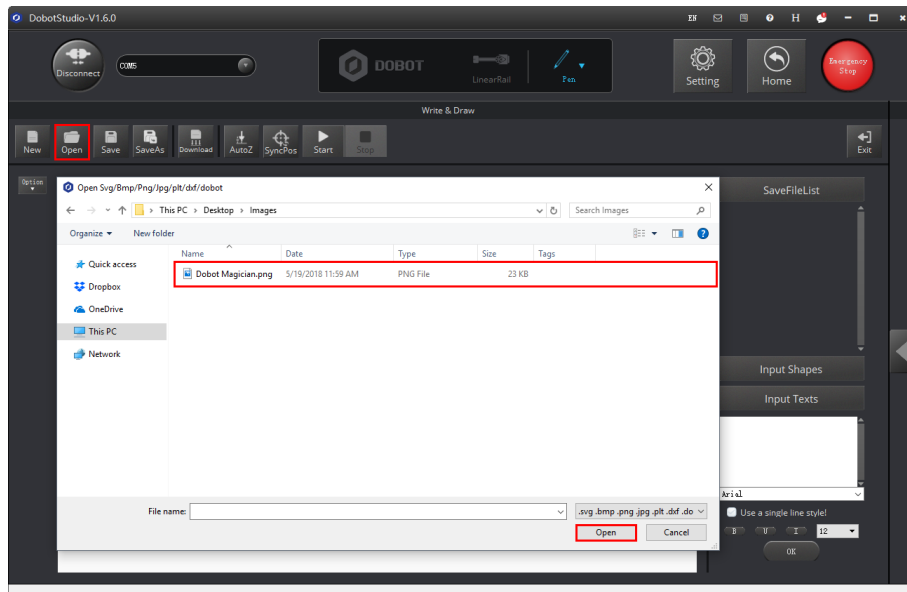
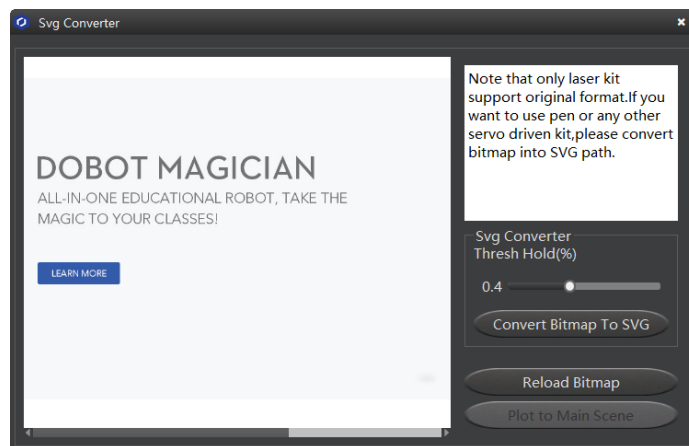

Figure 5.50 Import an image
Figure 5.51 Convert an image to SVG
- Click **Open** to import an image file such as BMP, JPEG, or PNG to convert this image to its corresponding SVG file that the DobotStudio supports, as shown in Figure 5.50. Once this image is imported, the **SVG Converter** dialog box is displayed, as shown in Figure 5.51. In this dialog box, drag the slider to set the black and white threshold, and click **Convert Bitmap To SVG** to perform the conversion, and then click **Plot to Main Scene**